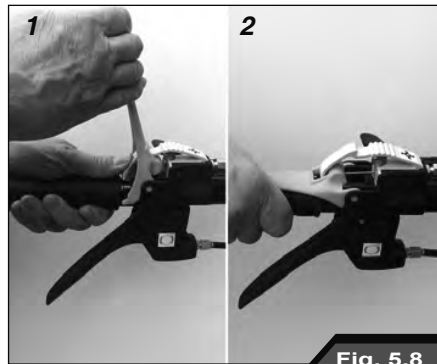

Fig. 5.8
**It is necessary to use two hands to unhook this lever, which is otherwise secured with a lock (Fig. 5.8).**